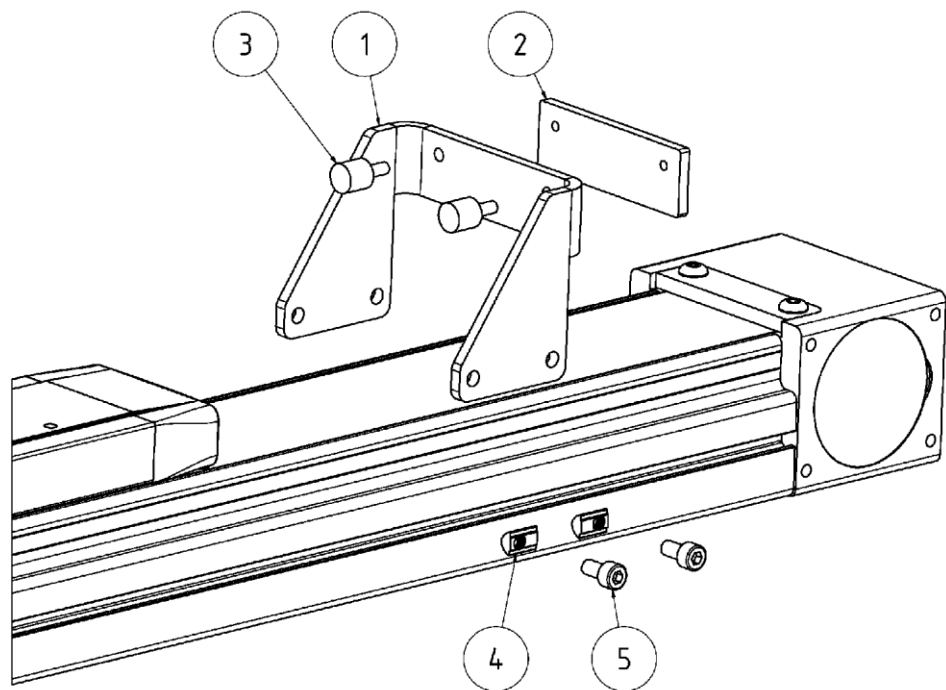

Figure 10: External end stop
- ◆ Place the thread plate (Figure 10, Pos. 2) on the external end stop (Figure 10, Pos. 1) and screw it to the buffers (Figure 10, Pos. 3).
- ◆ Insert the slot nuts (Figure 10, Pos. 4) into the clamping profiles of the HLR linear axis, two in each groove and roughly position them for the external stop.
- ◆ Slide the external stop onto the support profile (with the buffers in the direction of the carriage), over the slot nuts and screw-in the screws supplied (Figure 10, Pos. 5) (do not fastenn).
- ◆ Move the external stop to the desired position and tighten the screws (Figure 10, Pos. 5) with the required torque (see Table 9).
Tightening torque slot nuts (Figure 10, Pos. 5)